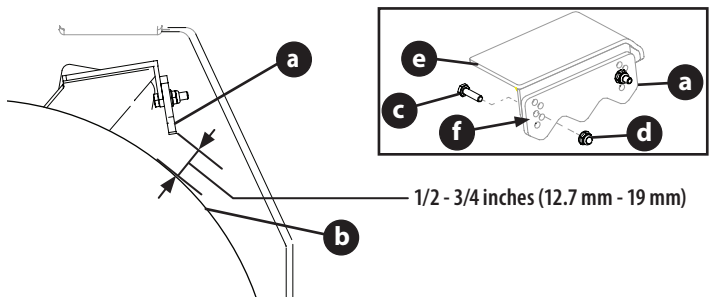

Figure 24
- With the parking brake disengaged, measure the gap between the brake wedge (a) and the rear tire (b) on both sides of the mower (Figure 24). This measurement must be 1/2 to 3/4 inches (12.7 mm - 19 mm).
- If necessary, perform the following to adjust the brake wedges (Figure 24):